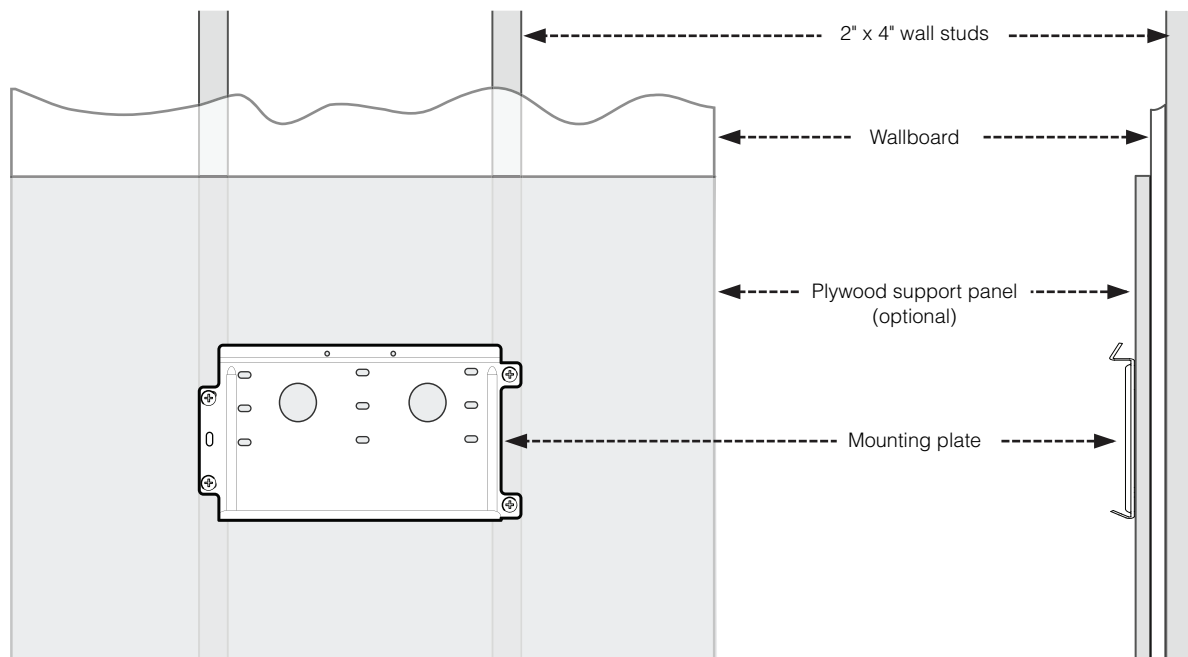

Figure 2-5 Mounting plate centered on wall studs
3. Using a level, secure the first mounting bracket to the wall. Ensure the mounting plate is centered on the wall studs, as shown in Figure 2-5. Use recommended anchoring hardware to secure the plate (see Table 2-1).
Note: The mounting plates are designed to interlock (as shown in Figure 2-5, so that multiple plates can be installed without additional measuring or leveling).